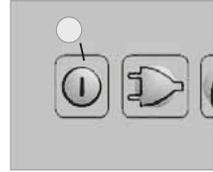

Fig. 41
- For battery igniter models, set energy selector switch (1) to position "OFF". The appliance is switched off (Fig. 41).
- Switch off MES and AES models by pressing button (2). Keep button (2) pressed for 3 seconds. The display disappears and the appliance is fully switched off (Fig. 41).